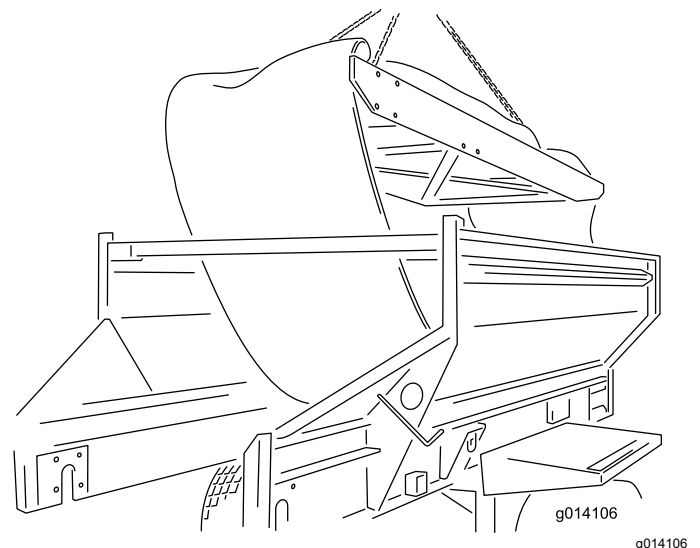

Figure 55
24. Remove the cartridge by lifting it out from the top of the machine. Place it on the ground (Figure 55).